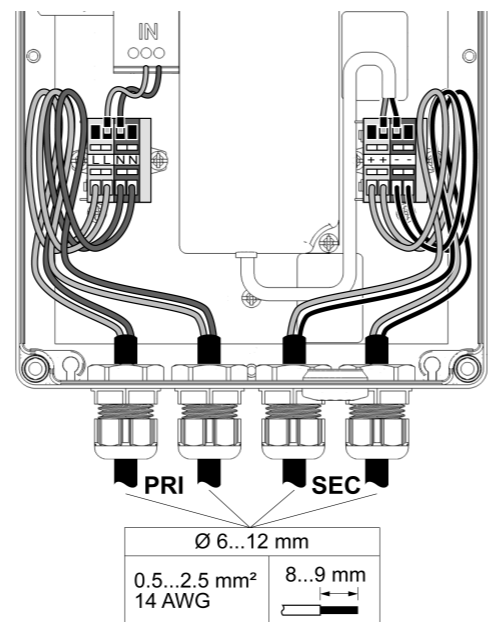

Figure 5: Cable routing in the housing
- Lay and attach spare cable loops of mains and low-voltage line separately in the housing (Figure 5).